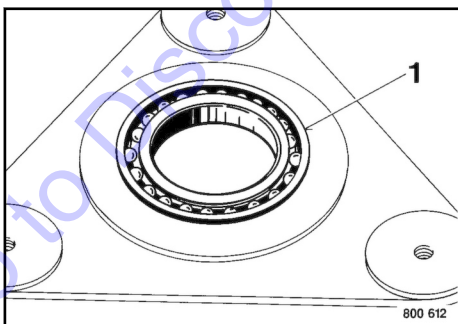

Fig. 244
1. Press ball bearing 1 ↪ Fig. 244 into the flange until it bottoms.